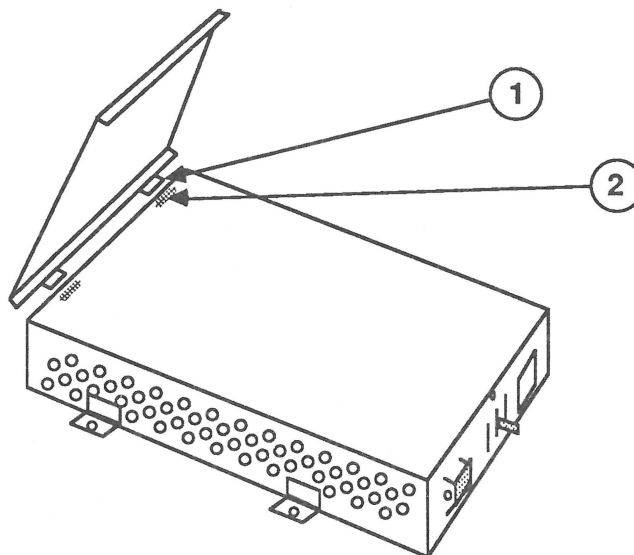

FIGURE 23
2. Insert the end tabs (Figure 23, #1) on the power supply cover in the slots (Figure 23, #2) on the power supply housing. Snap the cover down.